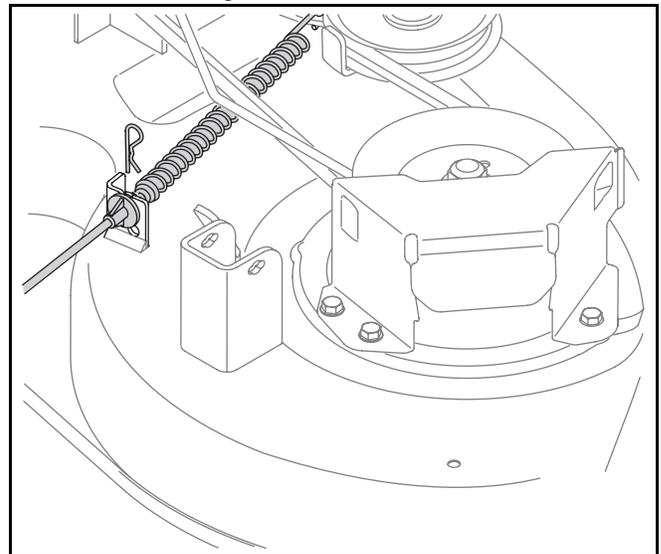

Figure 19
- Remove the hairpin clip that secures the PTO cable to the rear of the cutting deck. See Figure 19. Remove the PTO cable and accompanying spring from the cutting deck.